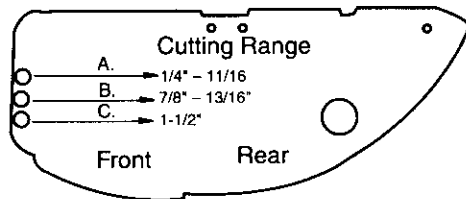
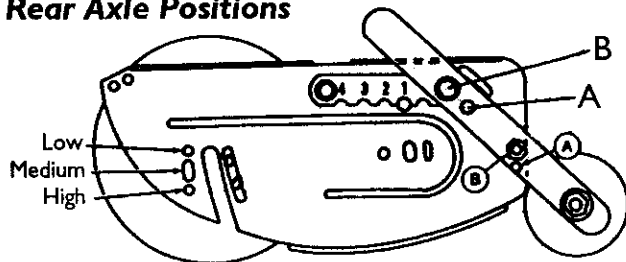
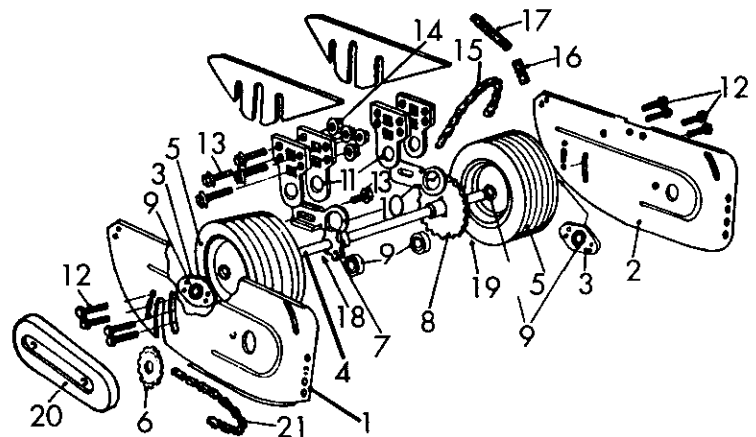

Figure 13
Figure 14
Figure 14A
The cutting height is adjustable from 1/4" x 1-1/2". The front wheel assembly bar may be moved in 3-holes on the side panels to adjust the height. (Refer to FIG. 13) The two top cutting height adjustment holes, A & B are used for all height adjustments except for the 1-1/2" height. Hole C is only used for the 1-1/2" adjustment.
Lift lever as shown (Fig 14) and adjust height by repositioning notched bracket.
When using A or B hole in the side panel (Fig.13) the notched lever (Fig. 14) must be changed to A or B hole also. When using the C hole in the side panel, place the notched adjusting lever in the B hole.
The mower is shipped with axle in the middle position and the cutting heights listed above are achieved with the axle in this position. The rear axle must be lowered to the high position (Fig. 14) to achieve the 1-1/2" cutting height.
2. Refer to Fig. 14A
- C. Remove clutch drive chain—No.15 and add (2) chain links. They can be purchased from the factory or McLane Service Center. Part No. 5016
- D. Remove (8) retainer bolts—No.12
- E. Loosen (8) hanger bolts—No. 13
3. Move Axle outward until retainer bolt hole aligns with the high hole in the side plate. (Fig. 14)
4. Replace and tighten (8) retainer bolts.
5. Tighten (8) hanger bolts.
CAUTION: To avoid possible damage to front wheels do not start mower before setting height adjustment. Notched height bracket at right front of mower (Fig. 14) must be placed at desired cutting height position.